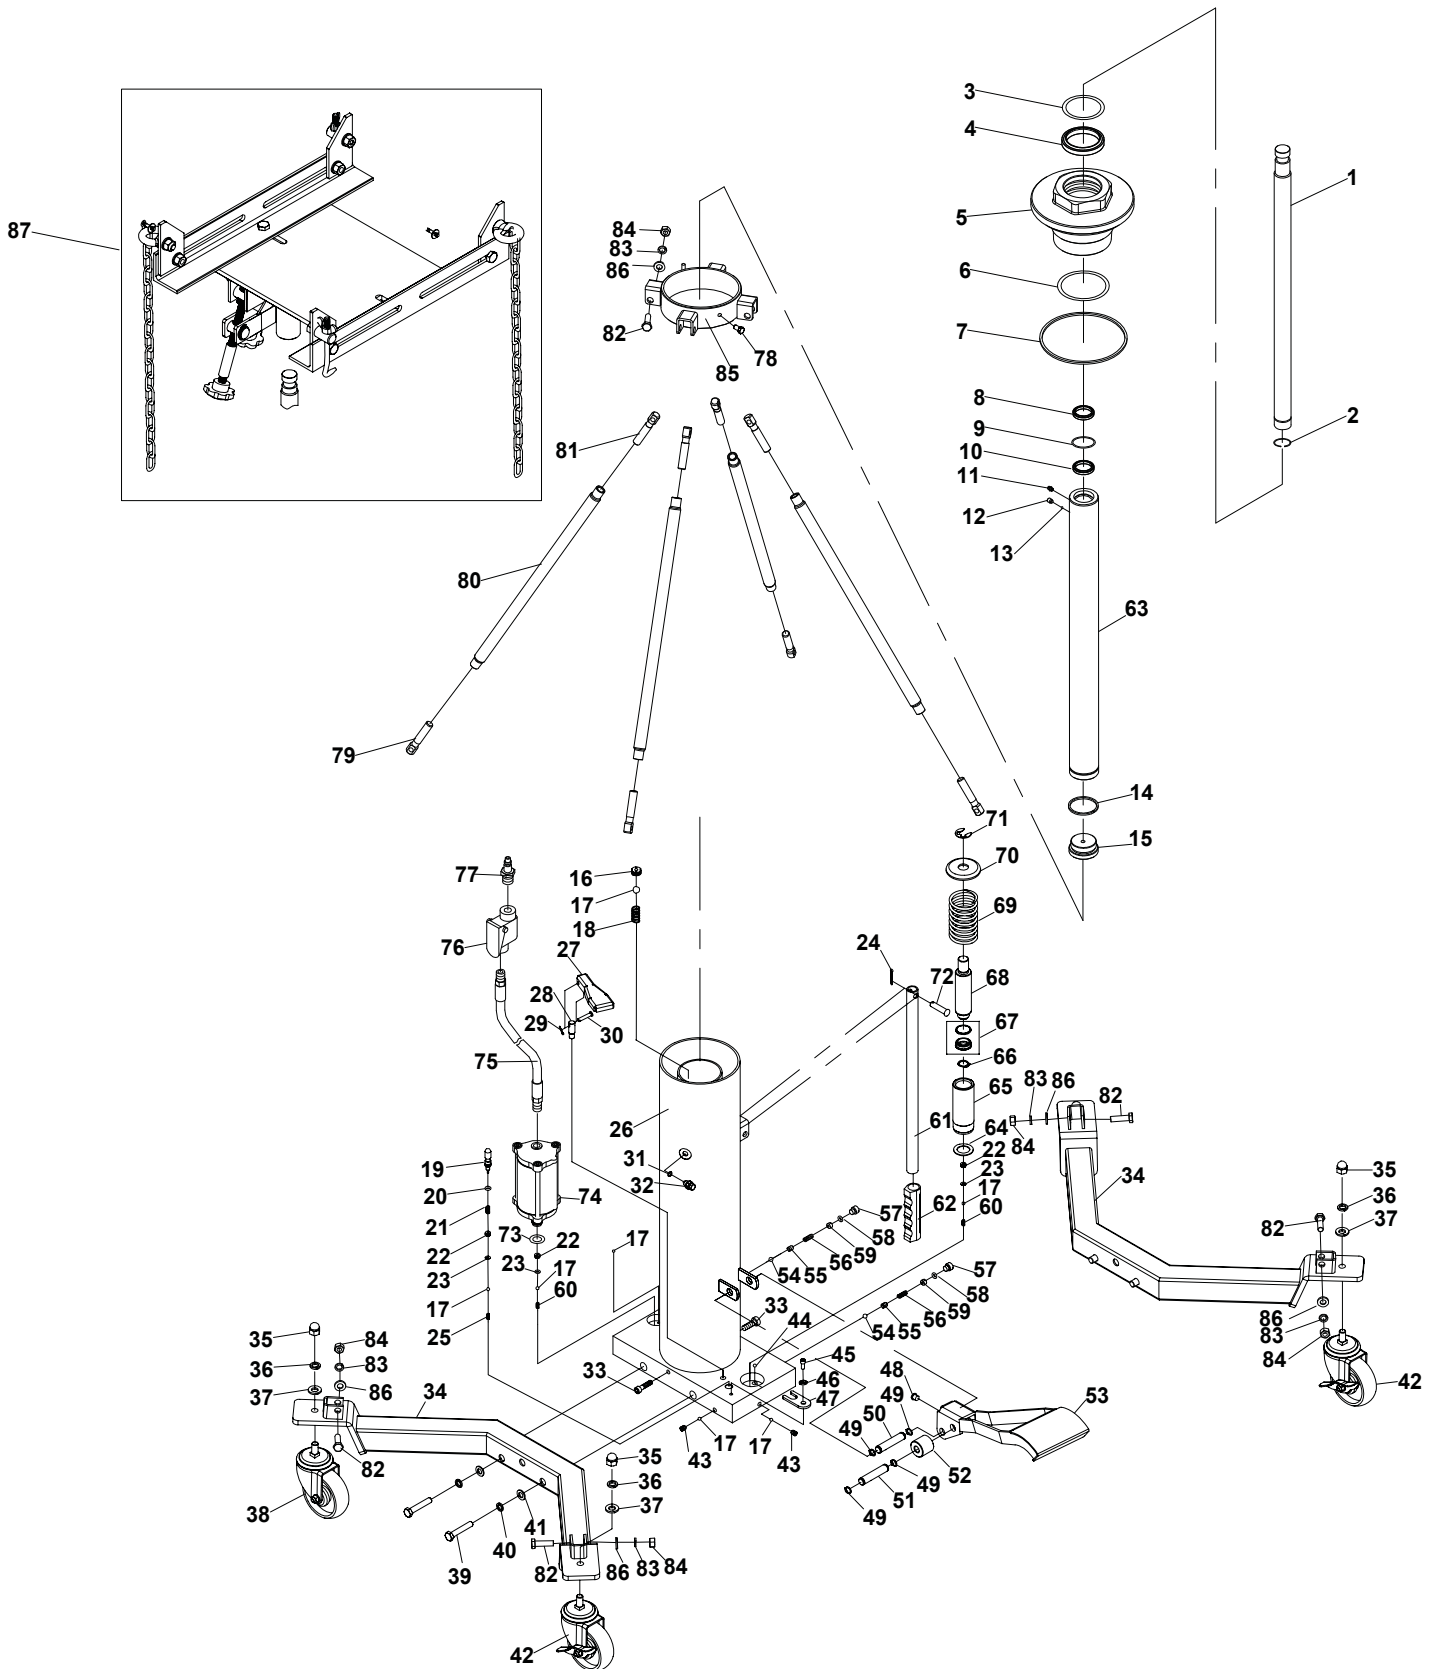

Figure 2 - Replacement Parts Illustration for model ATD-7434B
Refer to Figure 2 on page 5:
5. Pour a teaspoon of good quality air tool lubricant into the air valve (See Figure 2). Connect to air supply and operate for 3 seconds to evenly distribute lubricate